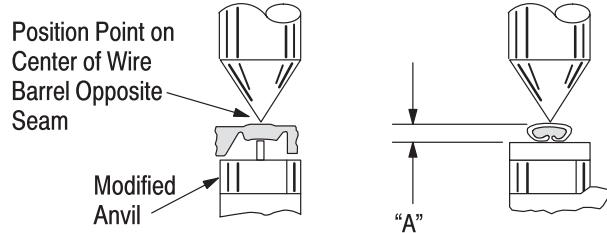

Figure 4
This tool is provided with a crimp adjustment feature. Initially, the crimp height should be verified as specified in Figure 4. Refer to Section 6, CRIMP HEIGHT INSPECTION, and Section 7, CRIMP HEIGHT ADJUSTMENT, to verify crimp height before using the tool to crimp desired contacts and wire sizes.
1. Refer to Figure 4 and select a wire (maximum size) for each crimp section listed.